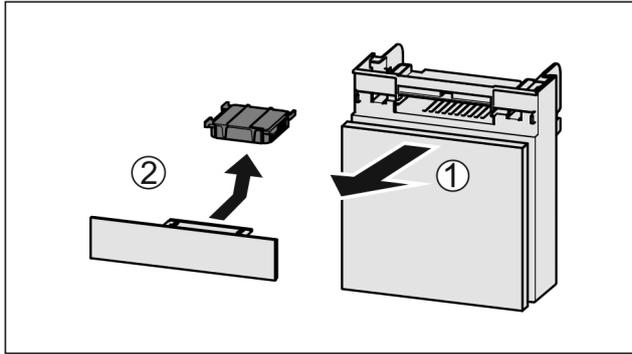

Fig. 122
- ▶ Pull out the compartment Fig. 122 (1).
- ▶ Remove the carbon filter Fig. 122 (2).